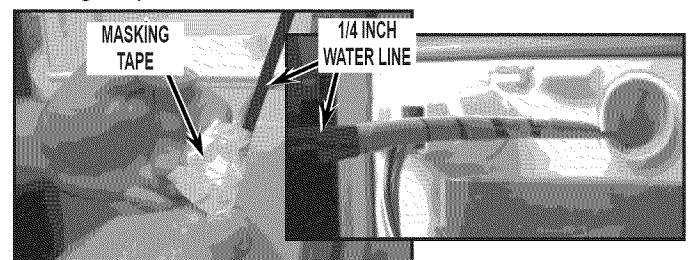

FIGURE 11
- Remove masking tape used for packaging from the new part. Attach the new 1/4 inch water line to the end of the correct piece of flexible wire or heavy string. See *Figure 11*.